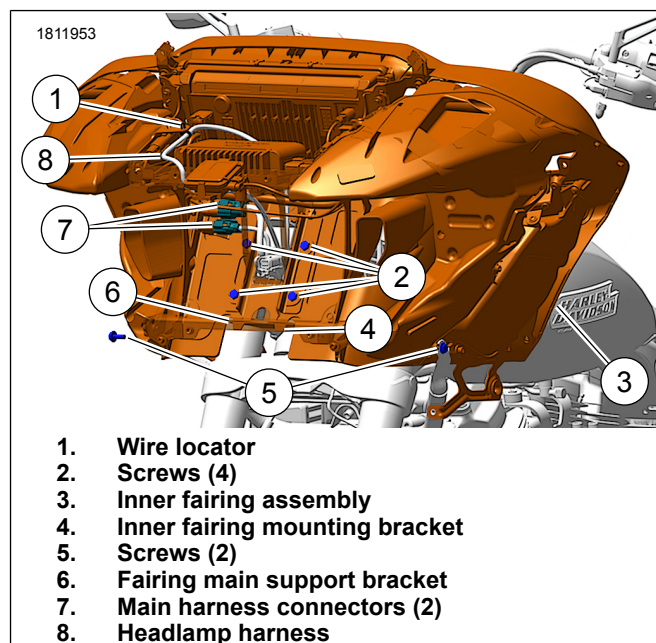

Figure 4. Inner Fairing Assembly
7. See Figure 4. Release wire locator (1) and route headlamp wire (8) out of inner fairing assembly (3).
8. Disconnect two main harness connectors (7).
10. Remove inner fairing support screws (5).
11. Remove inner fairing mount screws (2).
12. Raise the inner fairing assembly (3) off the inner fairing mounting bracket (4) and remove.
1. Lower inner fairing assembly (3) onto the inner fairing mounting bracket (4) and install.
2. Install inner fairing mount screws (2).
3. Install inner fairing support screws (5).
5. Connect two main harness connectors (7).
6. See Figure 4. Route headlamp wire (8) into inner fairing assembly (3) and secure wire locator (1).